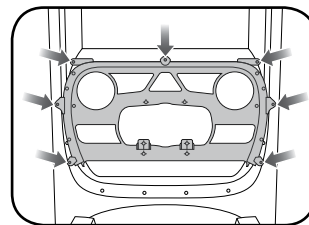

Fig. 1.7
- Choose the climate control trim piece from the DUR1 kit that lines up with your OEM climate buttons (the difference between the two is the spacing between the top and middle buttons). Install the trim into the main bezel using 4 screws. (Fig. 1.7)
- Install the buttons to the DUR1 bezel (in the reverse order of the removal, middle, top, then the bottom buttons) with the (16) supplied torx screws. (Fig. 1.7)